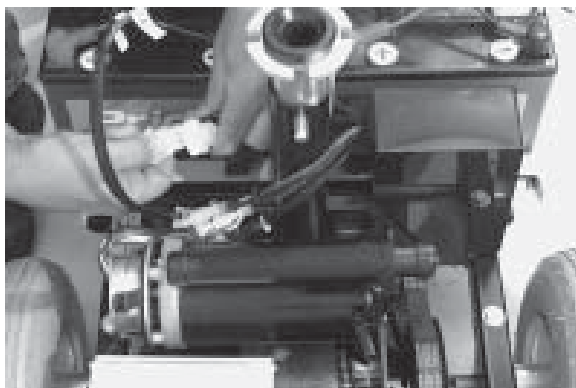

FIGURE 17. DISCONNECTING THE FRONT-TO-REAR HARNESS
5. Unplug the front-to-rear harness (large white 9-pin connector) that connects the front control console harness to the electronic controller assembly. See figure 17.